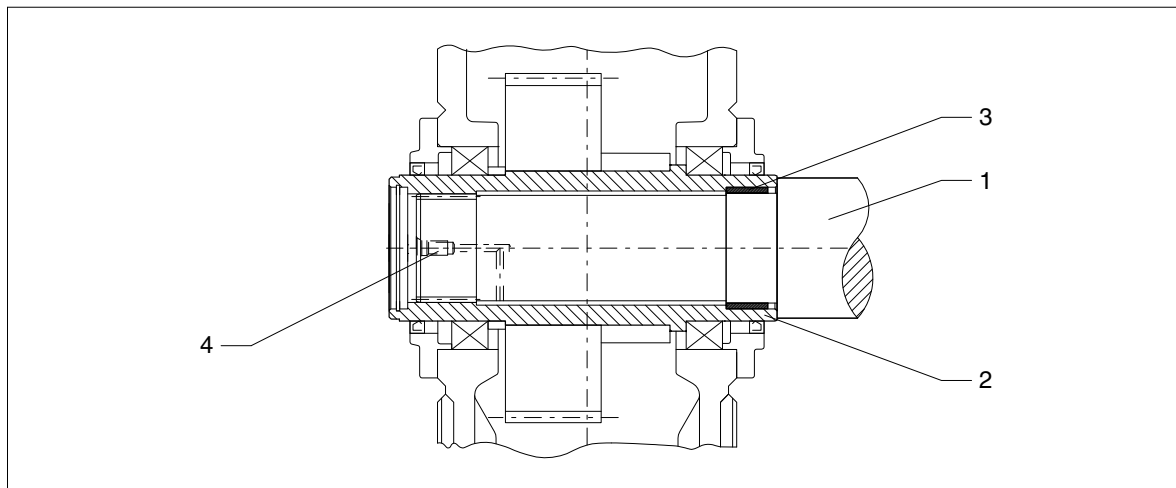

Fig. 37: Hollow shaft with internal spline, preparation
To facilitate demounting (see also item 6.5.3.), we recommend providing a connection for pressure oil on the end of the driven machine shaft. For this a hole must be drilled through to the hollow shaft bore (see figure 37). This connection may also be used for supplying rust-releasing agent.